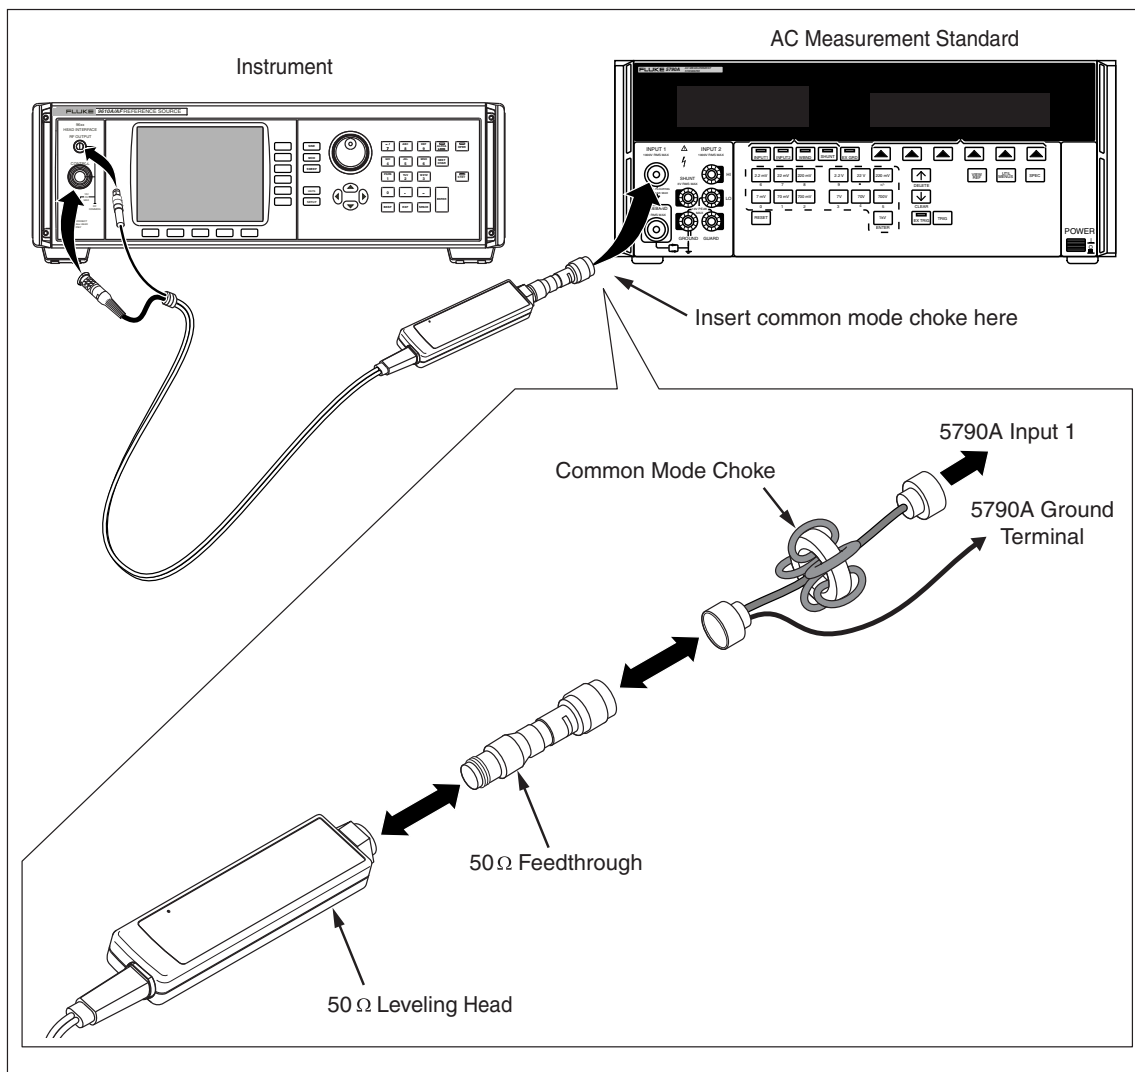

Figure 5-4. Equipment Connections – Level Accuracy Tests (50 Ω), Low Frequency Points
1. Connect the 50 Ω Leveling Head to the INPUT 1 connector on the AC Measurement Standard using a precision 50 Ω feedthrough termination. (If a Type-N feedthrough termination is not available, use a BNC 50 Ω feedthrough termination and appropriate adapters. Ensure that BNC connector contact resistance and repeatability does not significantly degrade measurement uncertainty). Select INPUT 1. See Figure 5-4 for equipment connections.